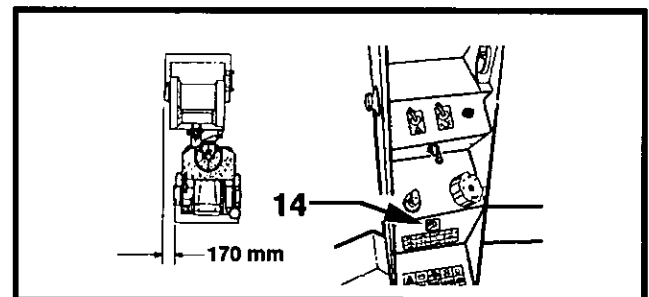

Figure 4-18 Drum Offset Adjustment Control Switch
1. To adjust the drum offset, it is recommended to move the machine slowly while operating the Offset control switch (14, Figure 4-18).
1. Switch OFF vibration control switch (3, Figure 4-18) .